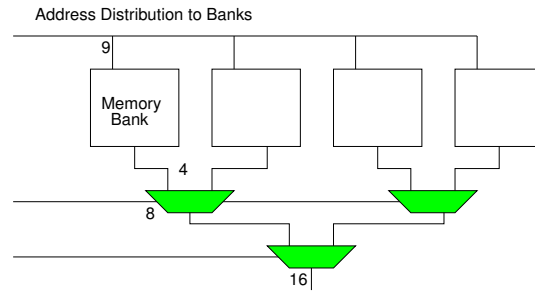

Figure 2: Banked Memory with $b = 4$ Banks
2. Extend the energy model to a banked memory (Figure 2) and determine the area-energy tradeoff and energy-optimal bank size.